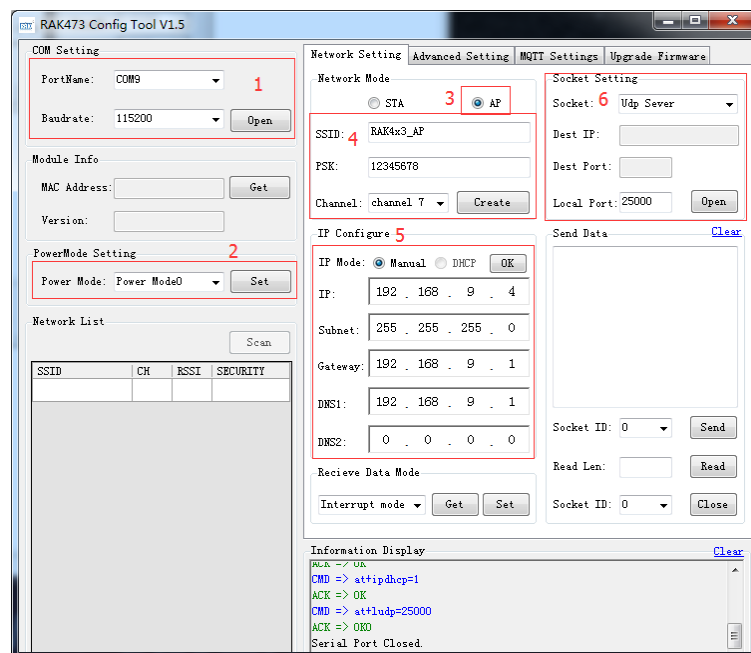

Figure 1-1 Configure the module in AP mode and create UDP Sever
1. Configure the module into AP mode, create UDP Sever, with the port as 25000, and close the serial port of the tool after the configuration is completed. Configuration method is shown in Figure 1-1, and it can also be configured with the command referring to part of "RAK473 (476) Guidance - Using UDP to communicate".